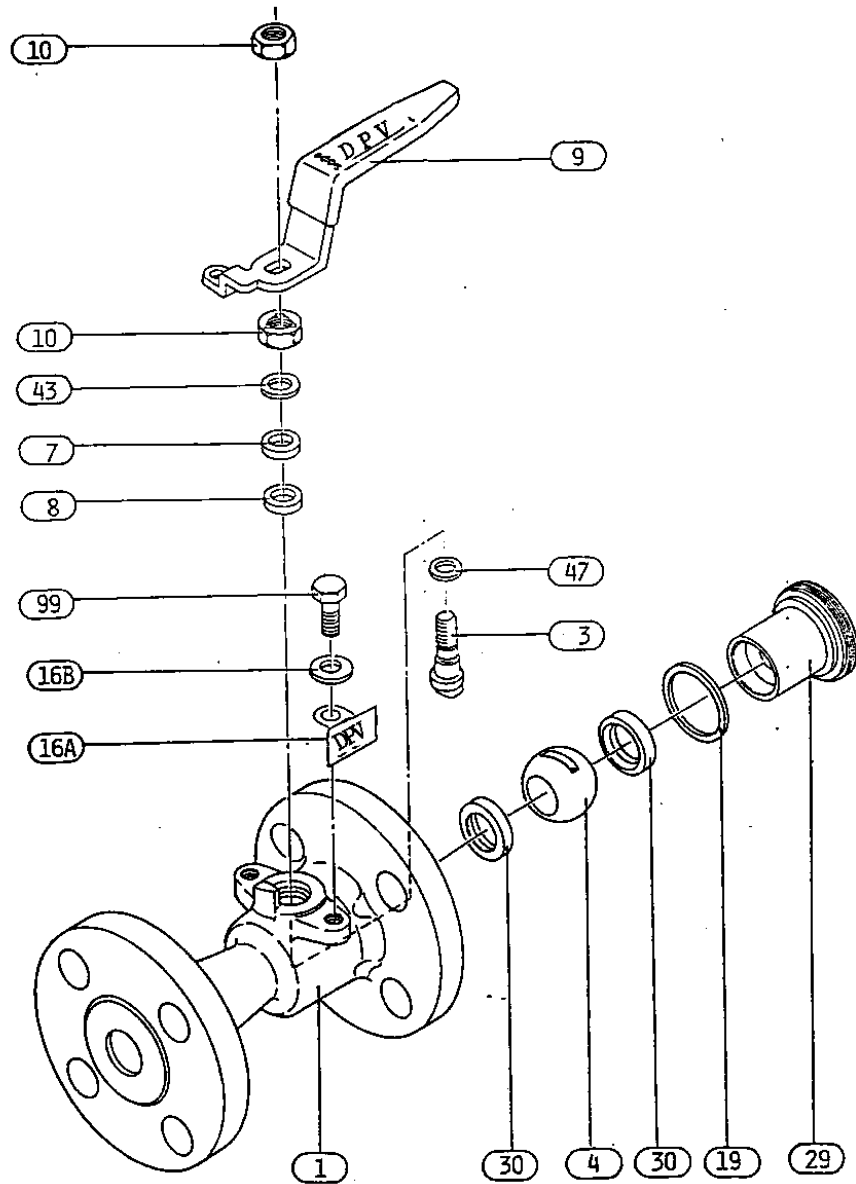

Fig. 1. Disassembly illustration of ½" to 4" valves
**Disassembly of valves; size ½” to 4” (Fig. 1)**
### 6.7 Re-assembly of valves: Size ½” to 4” (Fig. 1)